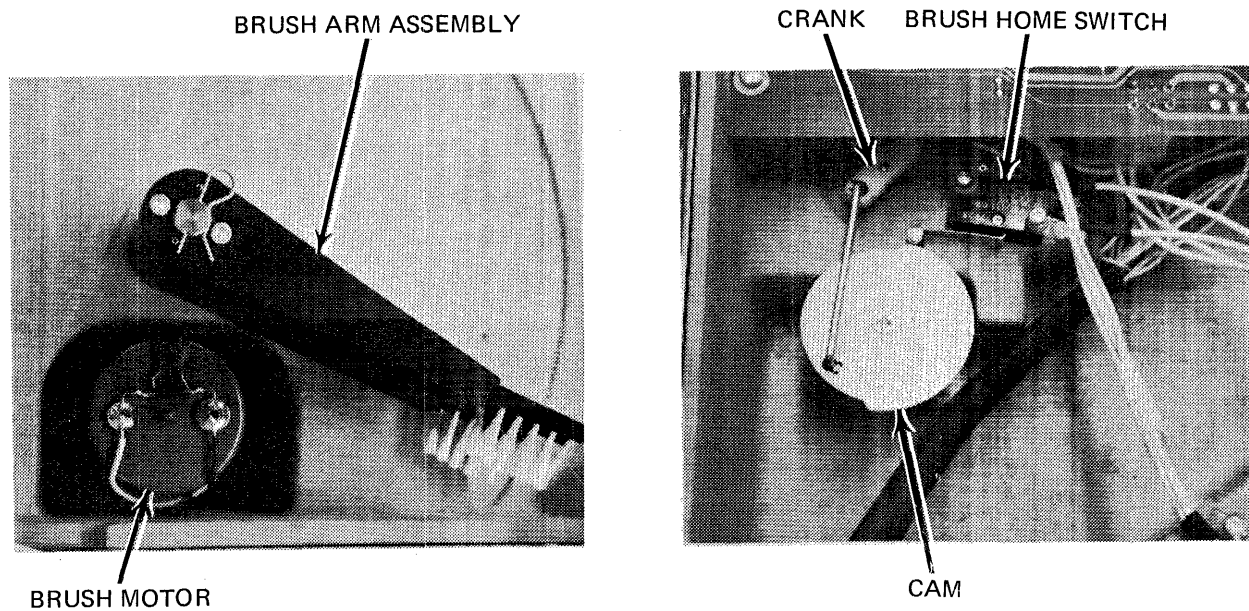

Figure 5-14. Disc Brush Drive Mechanism
5.4.2.14 Disc Brush Motor Replacement. To replace the disc brush motor, refer to Figure 5-14 and perform the following steps:
5.4.3.11 Disc Brush Home Switch. This microswitch is located next to the cam of the disc brush drive mechanism below the base plate (ref. figure 5-14). To remove the microswitch, perform the following steps:
WHEN TESTING AND ADJUSTING THE SWITCH MECHANISM, DO NOT ROTATE THE CAM BY HAND UNLESS THE LINKAGE TO THE BRUSH MOTOR (ref. figure 5-14) HAS BEEN DISCONNECTED. DAMAGE TO THE MOTOR HEAD WILL RESULT IF THE LINKAGE IS DRIVEN MANUALLY.